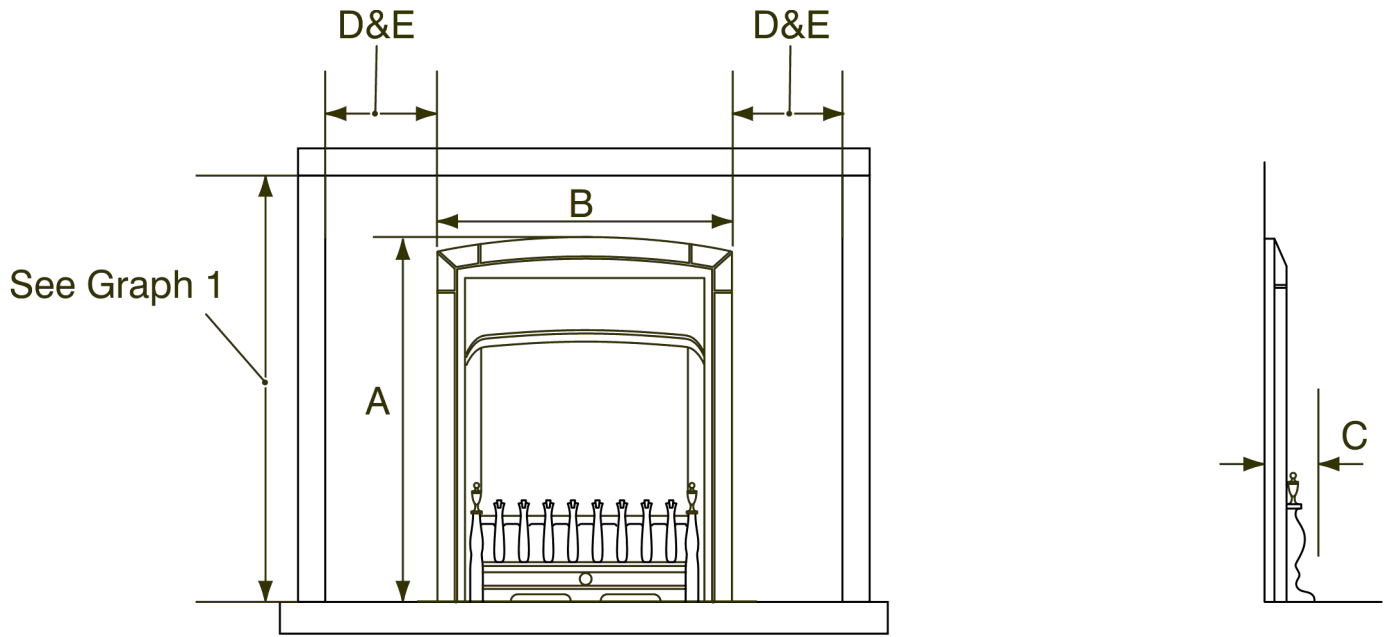

Figure 5. Appliance dimensions and clearances (Fascia may differ from that shown)
3.18 The minimum allowable distance from the outside of the appliance fascia to a corner wall having combustible material or any other combustible surface which projects beyond the front of the appliance is shown in figure 5. Figure 5 also gives the necessary access clearance from a non-combustible surface at both sides.